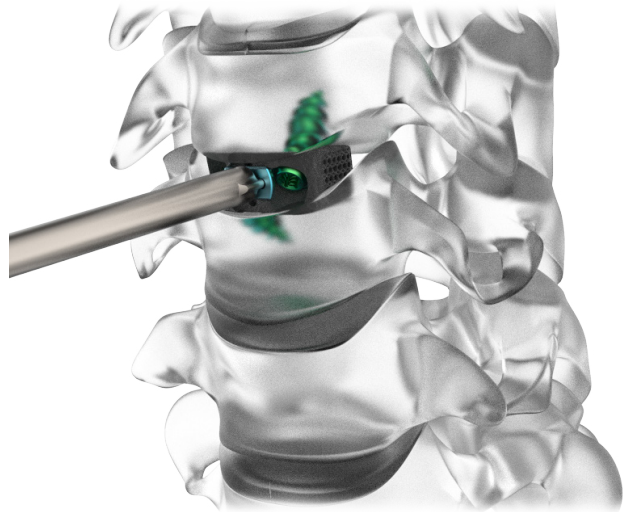

Figure 10
- Rotate Lock Tool 90° clockwise. The Integrated Turn Lock will encounter a positive stop with the Cage confirming it has reached the locked position (Figure 10).